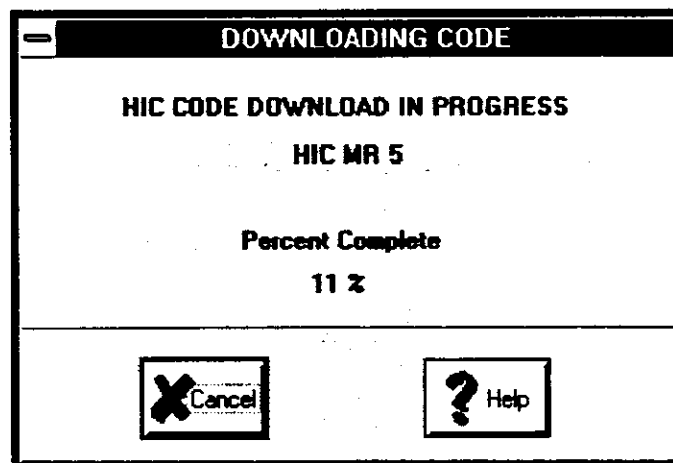

Figure 4-10. Typical DOWNLOADING CODE Message for HIC
- f. The DOWNLOADING CODE message will appear as shown in Figure 4-10. The window will indicate which HIC is being downloaded and the percentage of completion. The example below shows code downloading to HIC 5 in the Main Rack. During this download process the FAULT LED on the selected HIC will be ON.